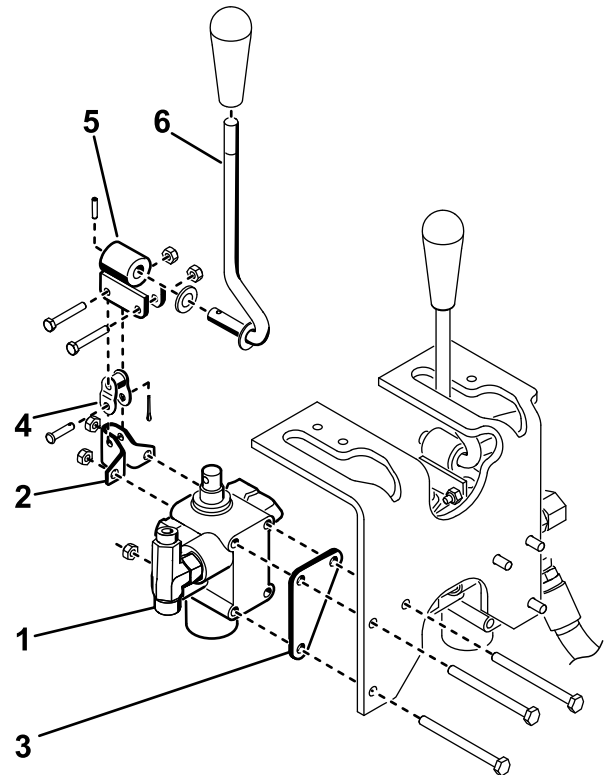

Figure 10
4. Mount the valve assembly, pivot bracket, and valve plate to the frame with 3 bolts (1/4 x 3 inches) and 3 locknuts (Figure 10). Position the valve plate against the front of the frame member when mounting, and torque the fasteners to 10 to 12 N·m (90 to 110 in-lb).
5. Loosely mount the pivot lever assembly to the valve spool and to the offset link with 2 bolts (#10 x 1-1/4 inch) and 2 locknuts (Figure 10).